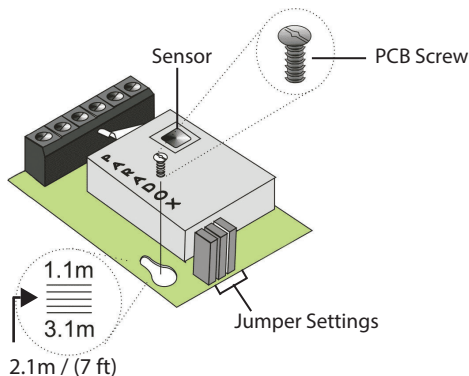

Figure 2
- 2) Loosen the PCB screw and remove the PCB (Figure 2 (3)).
- 4) Replace the PCB and verify that the height settings match the actual installation height (Figure 2).
### Detector Settings (Figure 2)